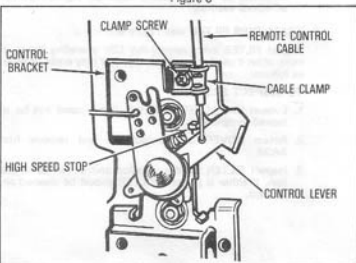

Figure 9
- ② **REMOTE CONTROL ADJUSTMENTS** (see Figure 9)